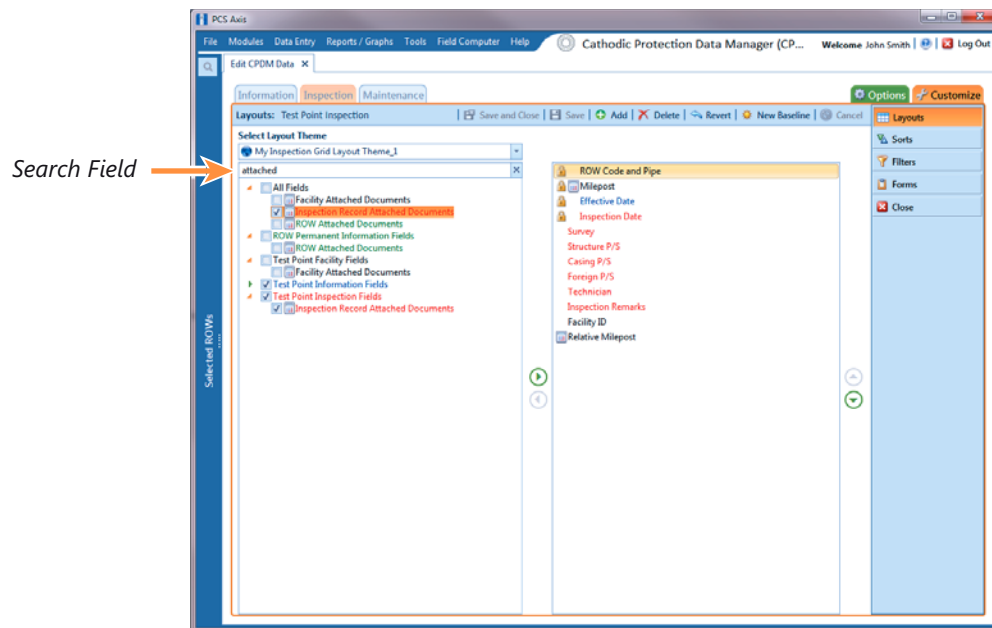

Figure 7-100. Layouts
- a Click the check box for the field **Inspection Record Attached Document** in the left pane of the window (Figure 7-100, page 321).